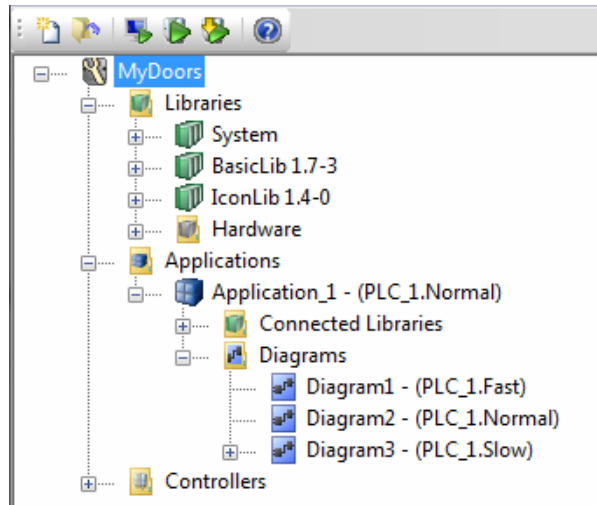

Figure 27. Diagrams Folder Expanded with Three Preset Diagrams Available
1. In the Project Explorer, expand the project tree to see **Diagram2**, (Figure 27). Double-click the icon to open the Diagram editor.
Make sure the diagram editor is open, (see Figure 27, to open editor). The default code block (Code) is the FD (Function Diagram) code block, which is a graphical editor (with visible grids) for adding graphical objects.